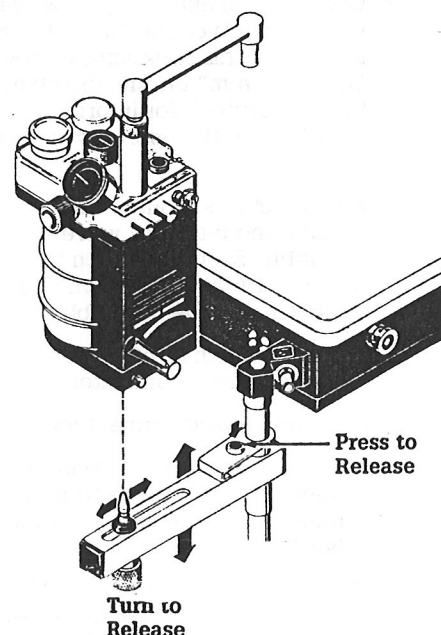

Figure 2-23
1. A knob under the absorber's mounting pin on the arm secures the pin to the mounting track. Loosen this knob about one turn. (See figure 2-23.)